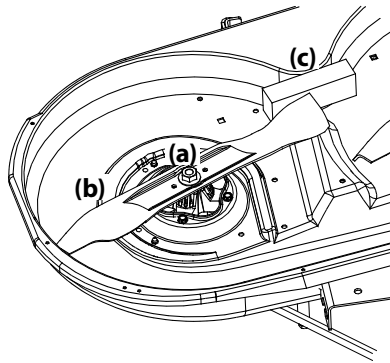

Figure 4-23
2. Use a  $1\frac{5}{16}$ " wrench to hold the hex nut on top of the spindle assembly when loosening the blade (b). A block of wood (c) may be placed between the deck housing and the cutting edge of the blade (b) to help in breaking loose the hex nut (a) securing the blade. See Figure 4-23.